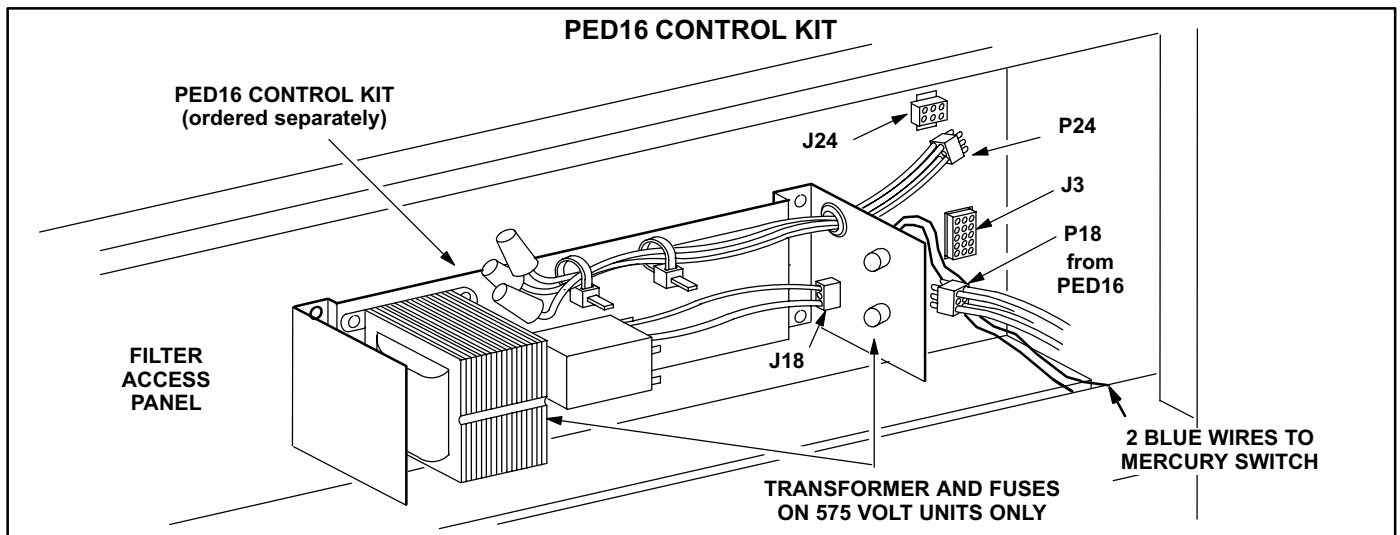
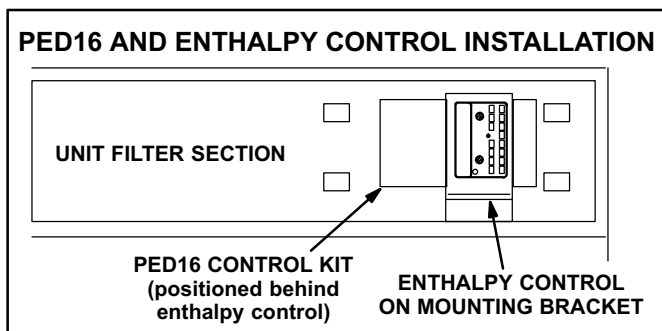
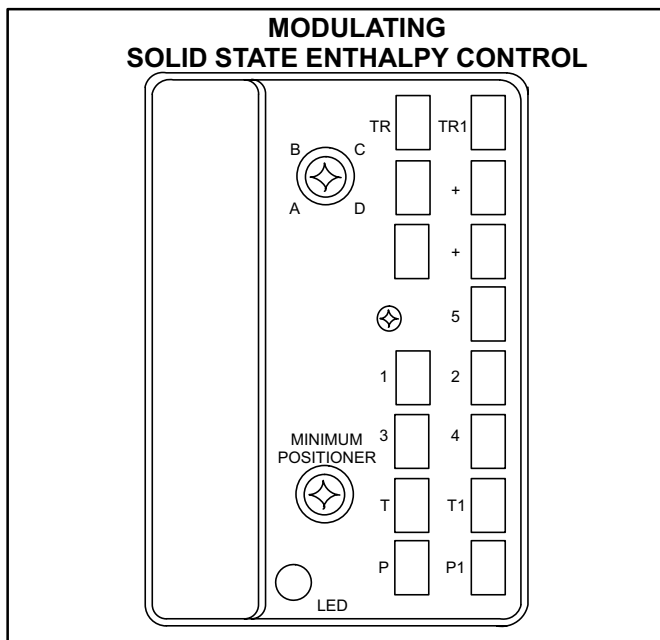

FIGURE 55
FIGURE 56
FIGURE 63
The PED16 is operated by a relay control kit (figure 55) located in the unit filter access section. A mercury switch located on the damper blades senses economizer operation. As the damper blades open the mercury switch (figure 58) closes and energizes a relay in the control kit. When the relay is energized a set of normally open contacts close and the PED16 exhaust fans are energized.
The PED16 control kit (figure 55) and the economizer enthalpy control (figure 63) are designed to be located in the same area of the unit filter section simultaneously. The enthalpy control is attached to a stand-off bracket which allows the PED16 control kit to be installed behind as shown in figure 56.
- 2- Install jumper across contactor K3-2 terminals (see unit diagram) in unit control box. Install jumper across enthalpy control terminals T and T1. See figure 63 for terminal location.
- 5- Remove T and T1 jumper then restore power to unit. Outdoor damper should drive to minimum position. Adjust minimum damper position pot located on control. See figure 63.